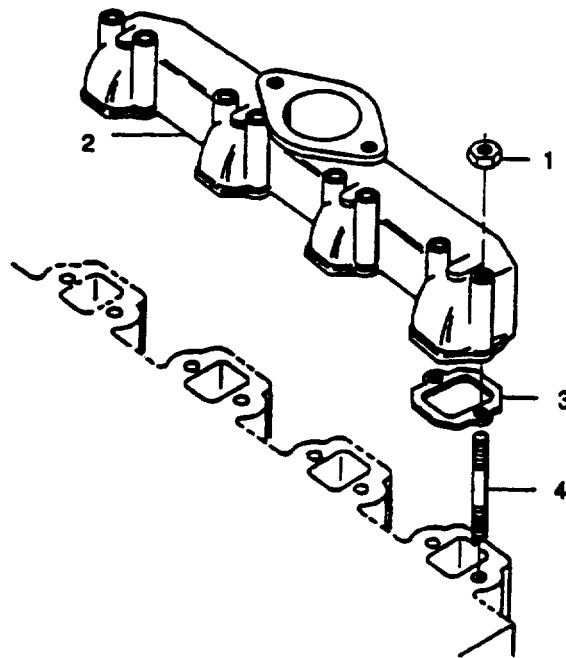

FIGURE 3-3. Exhaust Manifold
- b. Remove eight nuts (1, FIGURE 3-3), exhaust manifold (2), and four gaskets (3) from studs (4). Discard gaskets (3).
- c. If damaged, remove eight studs (4).
- c. If removed, install eight studs (4, FIGURE 3-3).
- d. Install four new gaskets (3), manifold (2), and eight nuts (1). Tighten nuts to 78 in-lbs (8.8 Nm).